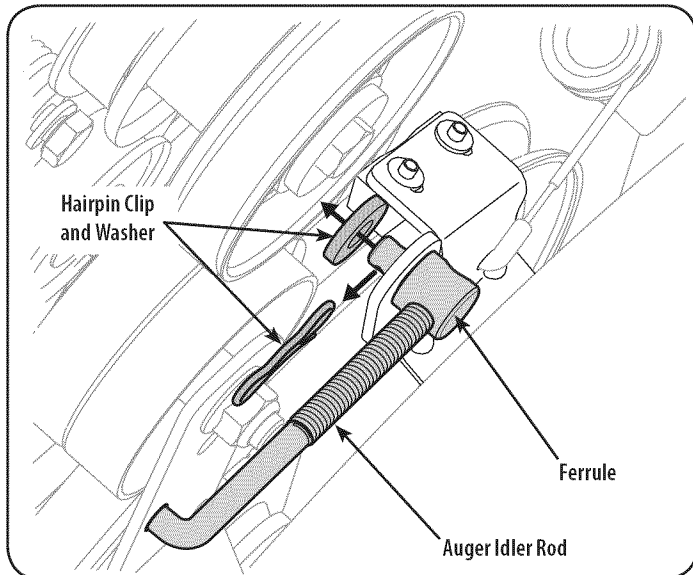

Figure 31
- Loosen the bolt shown in Figure 31 securing the belt keeper bracket and remove the other bolt. Push the belt keeper and bracket up off the engine pulley.
- Remove the bow-tie clip and flat washer from the ferrule in order to disconnect the auger idler rod from the brake bracket assembly. See Figure 31.